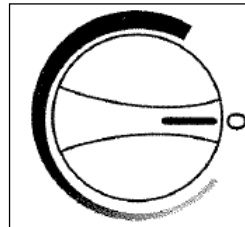

Fig. 1
- When maximum cooling is achieved, turn back the temperature control knob setting to the 2 o'clock position on the graduated blue control dial. **See Fig.1.**